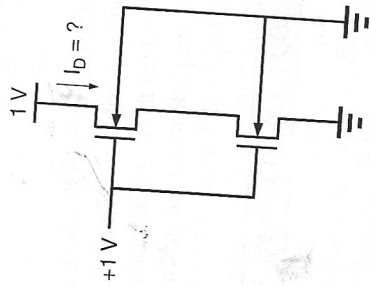

Figure P3.10
- 3.10 Using the parameters given, calculate the current through two nMOS transistors in series (see Fig. P3.10), when the drain of the top transistor is tied to V_{DD} , the source of the bottom transistor is tied to $V_{SS} = 0$, and their gates are tied to V_{DD} . The substrate is also tied to $V_{SS} = 0\ \text{V}$. Assume that $W/L = 10$ for both transistors and $L = 4\ \mu\text{m}$.